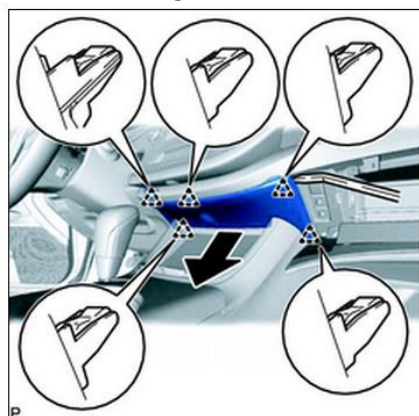

Figure 18
28. Disengage the 2 most left Clips on the Lower Center Information Finish Panel. Figure 18.